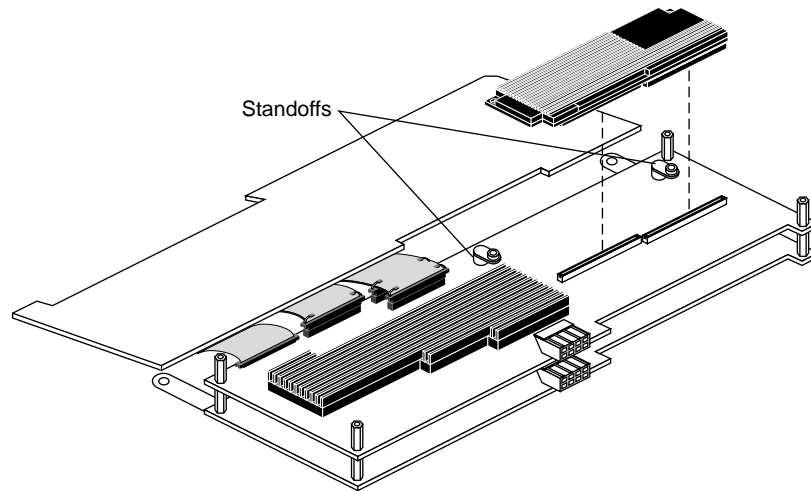

Figure 5-36 Disconnecting the Texture Memory Board From the Middle Board
8. Slide your fingers under the edge of the board and push up until the board is disconnected from the graphics board. See Figure 5-36.